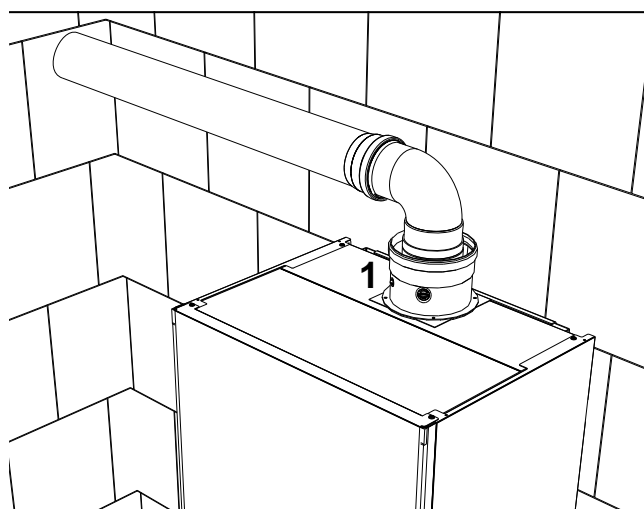

fig. 66
Install the starting accessory supplied as standard (ref. 1 fig. 66).